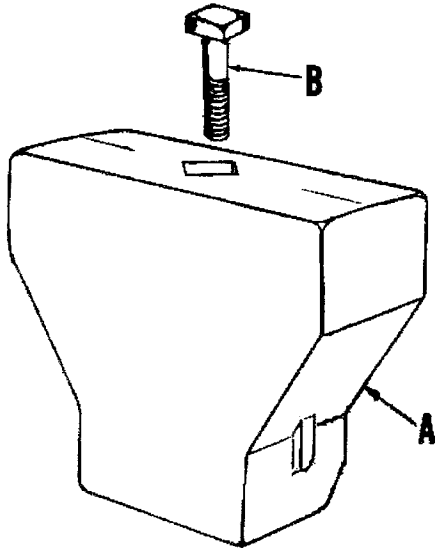

FIG. 1
1. Set weight (A), in position shown in Fig. 1. Drop bolt (B), in open hole of weight with bolt threads downward.